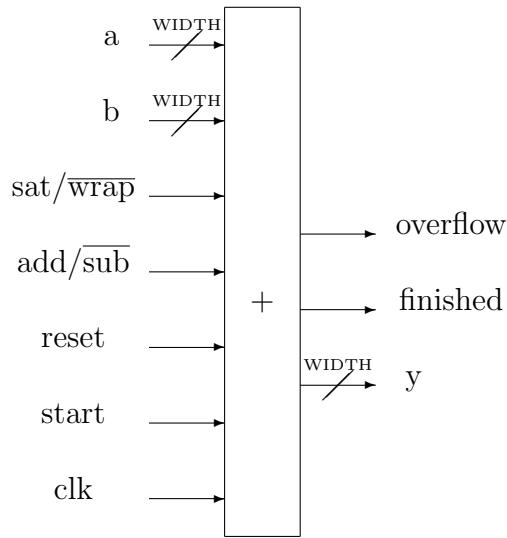

Figure 3: Illustration of entity for serial adder/subtractor with additional control signals.
Figure 3 illustrates the entity for a serial adder/subtractor. In addition to the signals present already in Section 6, there is a clock signal and a control bit to decide when to start the calculation. An output signal that marks when computation is finished will simplify testing.
Preparation: Using Figure 2 and your Section-6 adder design as inspiration, design a bit-serial adder/subtractor according to Figure 3. The start signal should be *active-high*, that is, computation should start when the signal is set. The finished signal should also be active-high. Trigger on the rising edge of the clock. The reset signal should be synchronous (that is, it should take effect only on the next clock edge) and active-high.
- Create a VHDL entity in accordance with Figure 3. Compile with the test bench to verify consistency of interfaces.